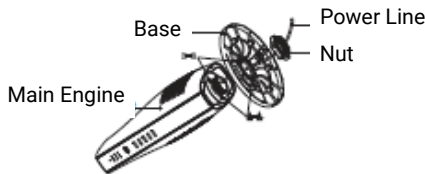

Figure 1
1. Thread the power line from the main engine through the nut and base. Screw the nut in a clockwise direction to tighten the nut to the bottom of the base. (*shown in Figure 1*)